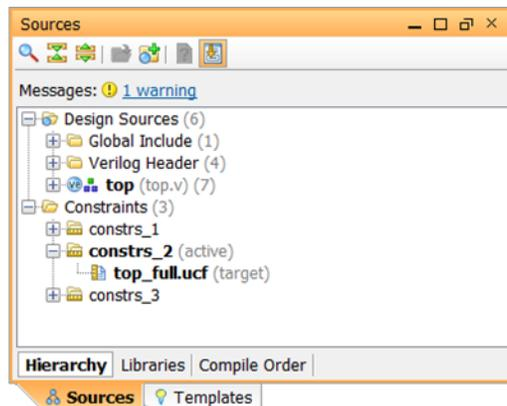

Figure 3: Sources View
3. In the Sources View, expand the Constraints folder to ensure constrs_2 is the active constraint set, as shown in FIGURE 3.